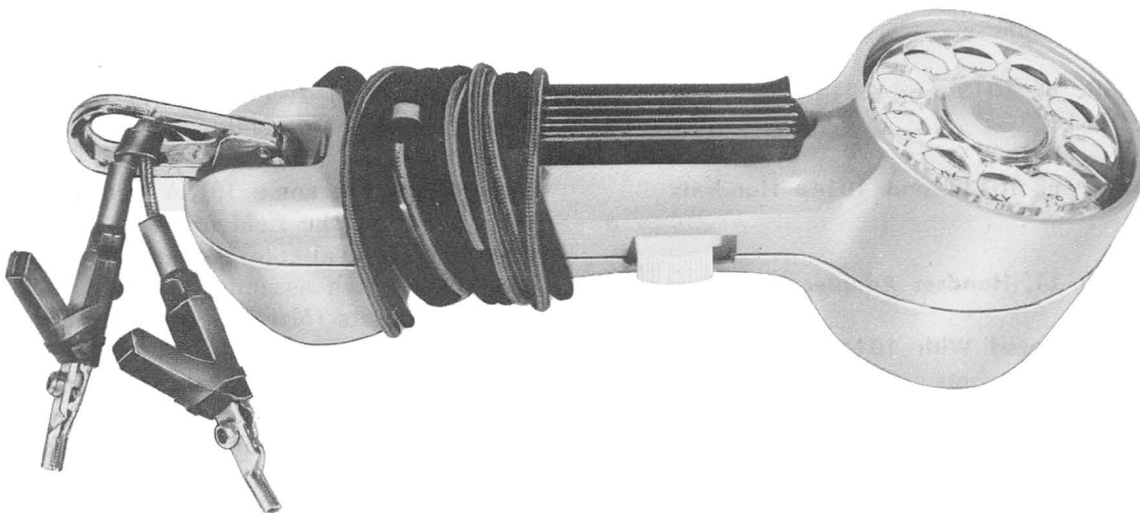

Fig. 1—1013B Handset with 104A Insulators (Showing Recommended Lead Storage for Carrying on Pouch Belt)
2.01 The 1013B and 1014B handsets (Fig. 1, 2, and 3) consist of a T1 transmitter unit, LB7 receiver unit, an 11C dial which contains a dirt shield between the number and plate frame to prevent contaminants from jamming the dial gear train, a 2642A transformer, an 840999320 switch assembly which contains a locking and nonlocking switch for monitoring and talking, and a rubber dial boot to prevent contaminants from entering the back of the dial. These parts are assembled in orange plastic housings for the 1013B and 1014B handsets, in a blue plastic housing for the 1013A handset (Mfr Disc.), and in a yellow plastic housing for the 1014A handset (Mfr Disc.). The 1013B handsets are furnished with a 4-foot cord equipped